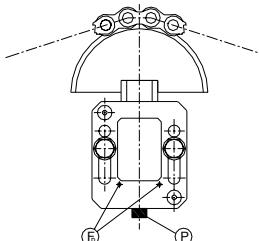

图 4 – Bild 4
- 5) 将预加负荷用柱销 ② 从孔 F_p 中拔出，并将其重新插入其初始位置。张紧装置将自动将链条或皮带拉紧 (图 4).
- 5) Take the preloading pin ② out from the hole F_p and place it in its initial seat. The screw coupling will automatically carry the chain or belt in tension (Bild 4).